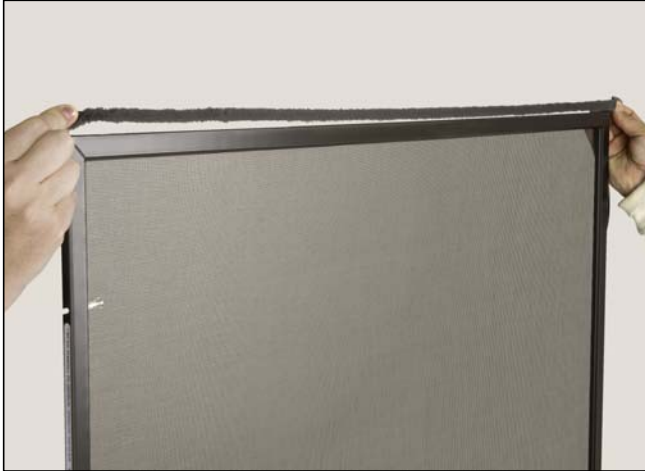

Figure 1
1. Cut pile weather strip equal to width of screen. See figure 1.